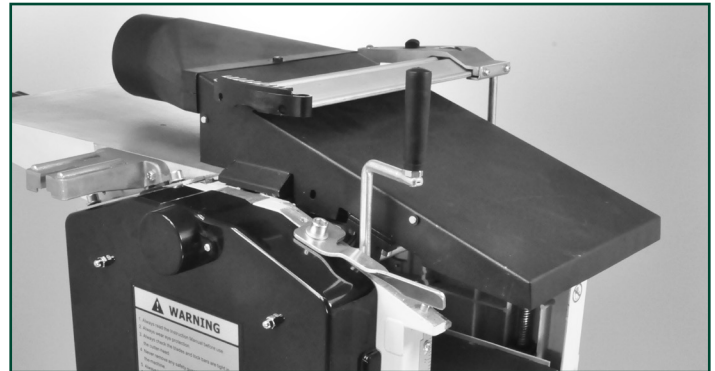

FIG. 37
2. Swing the chip ejection hood up and over the cutterhead and secure it in place by lowering the blade guard onto it for added security. FIG. 37.